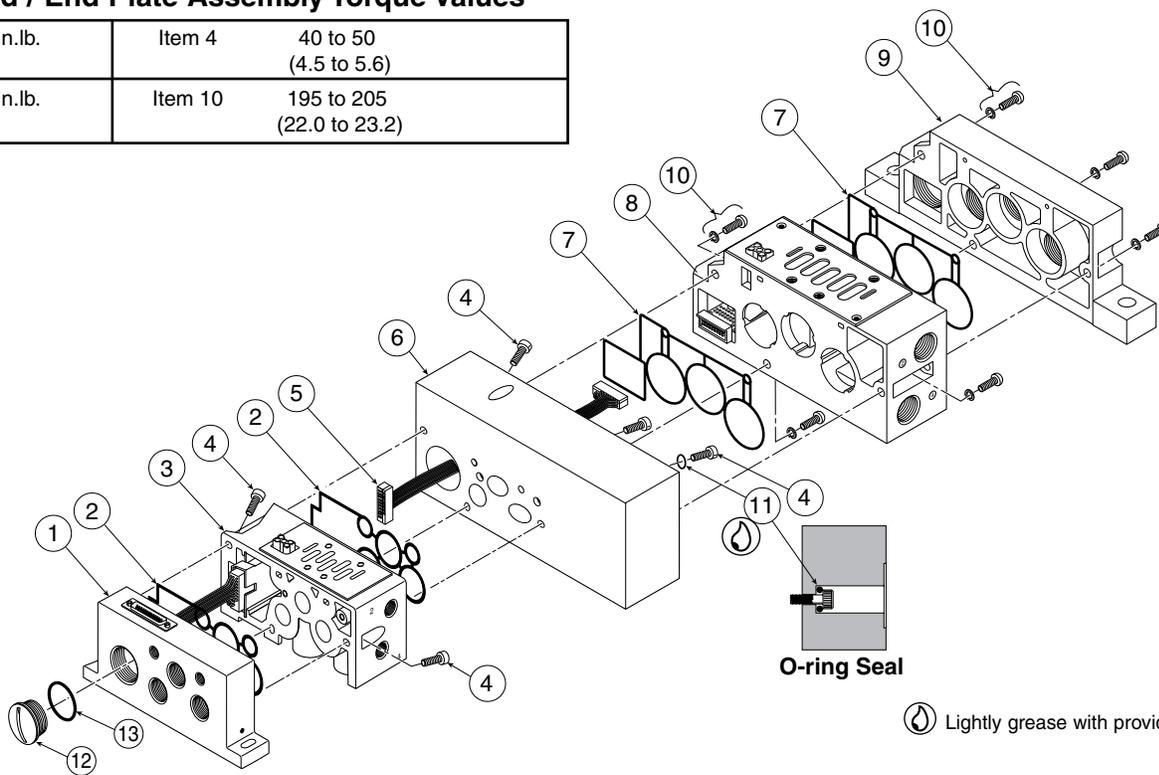

Figure 7 (H1 to H3 Transition Assembly)
**H1 to H3 Manifold Assembly (See Figure 7)**